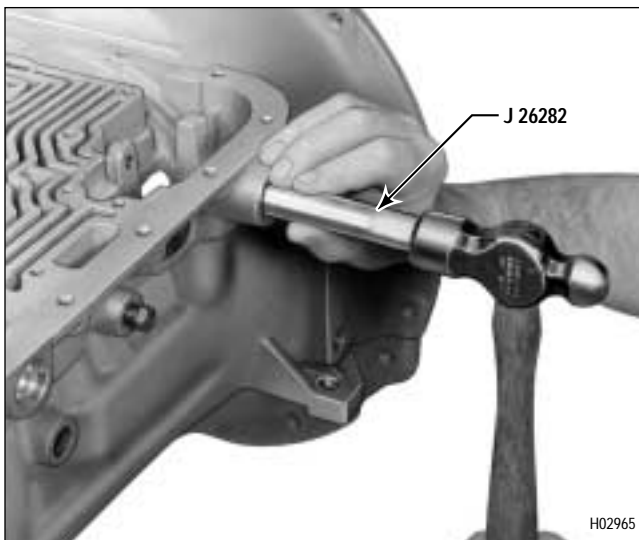

Figure 6-58. Installing Selector Shaft Oil Seal
(1) If snapping 9 (Foldout 12,A) was removed, install a new snapping. Be sure to inspect the bore into which bearing 4 (Foldout 12,B) fits for damage.
(2) Coat the ID of lip-type oil seal 61 (Foldout 12,B) with oil-soluble grease. Install the seal, lip first, into the transmission case (Figure 6-58), using special installer J 26282.